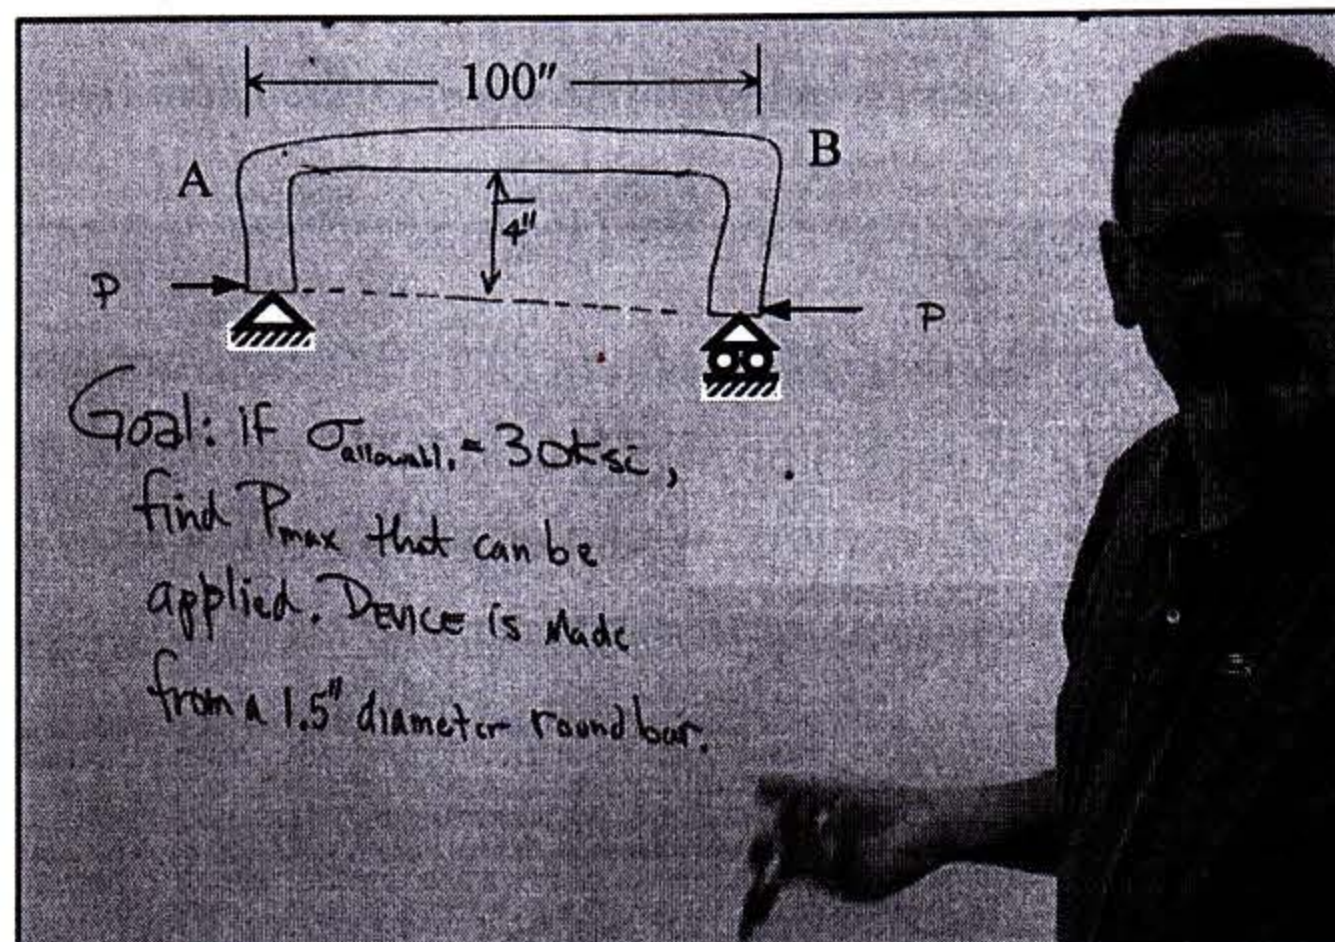

Fig. 3
- Fig. 3 shows a professor (in Texas Tech, USA) sketching on white-board to calculate the maximum force P_{max} that can be applied on the steel frame drawn, including a 100"-long round bar AB of 1.5"-dia.